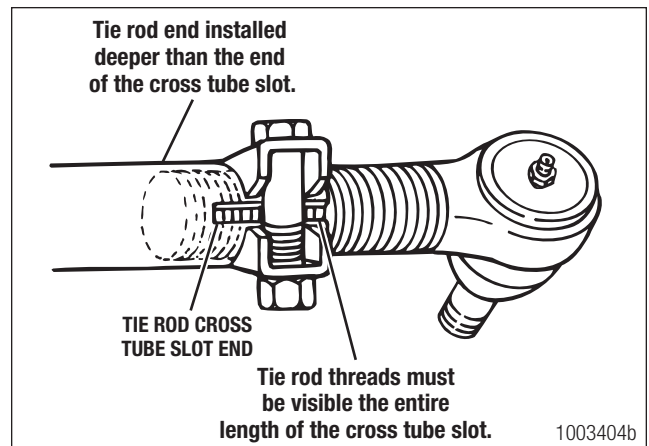

Figure 11.13
7. Check that the tie rod end is threaded correctly into the cross tube and installed deeper than the end of the cross tube slot. The tie rod end must be visible the entire length of the cross tube slot. Figure 11.13.